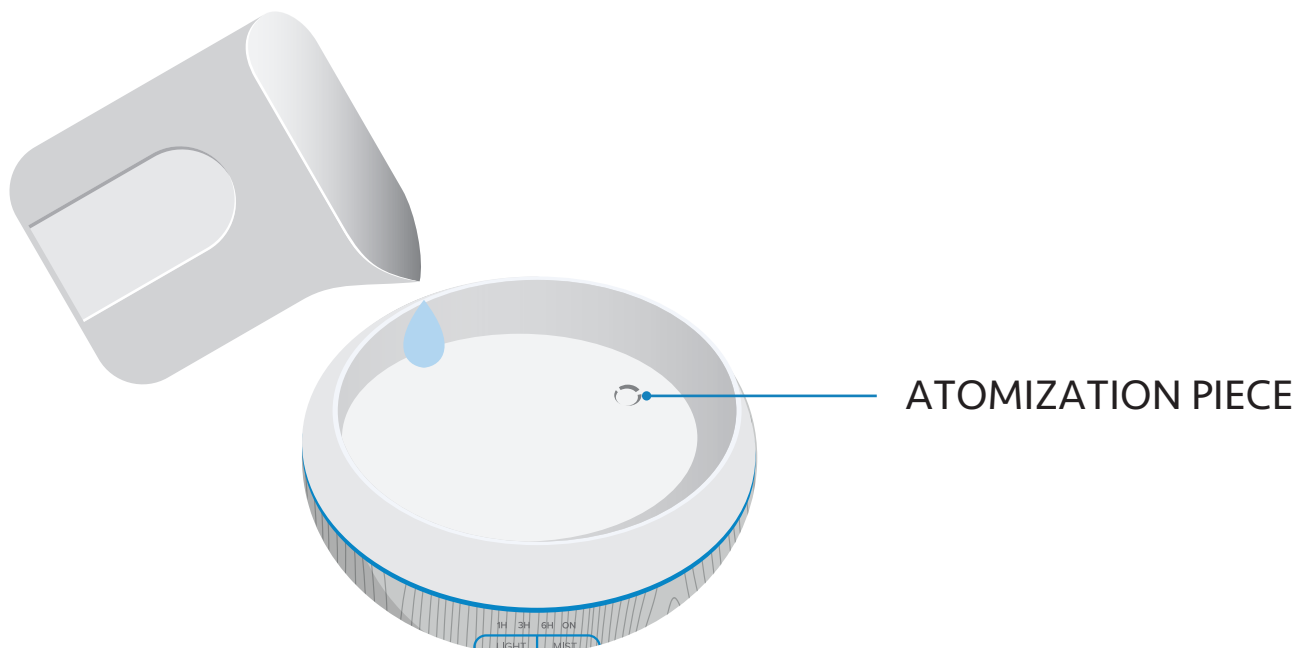

Fig. 8
- Do not touch the atomization piece inside of water tank while unit is powered on, can produce electric shock. (Fig. 8)